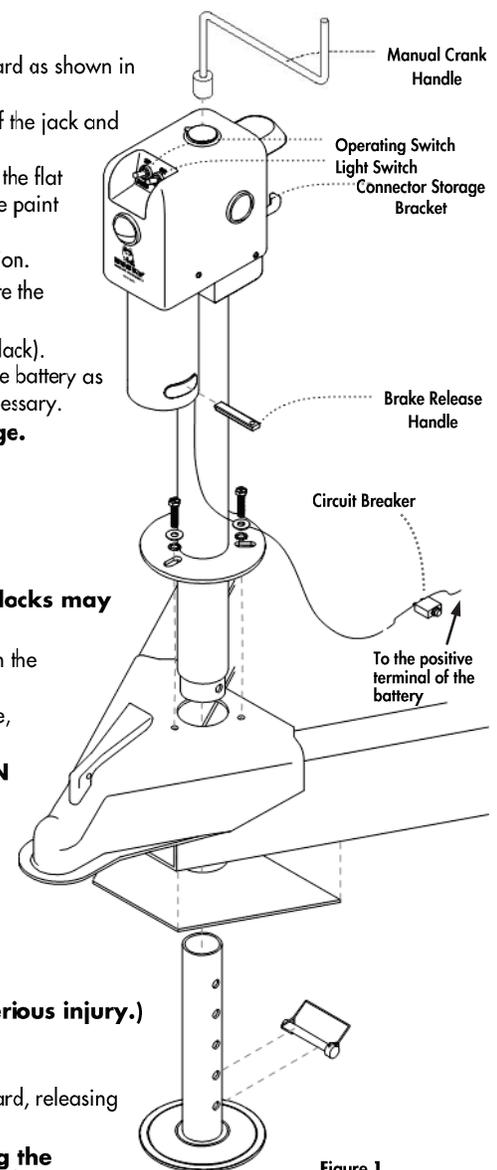

Figure 1
4. Insert the Husky® Brute into the jack hole and aligning the bolt holes so the motor housing is facing forward as shown in Figure 1.
5. Secure the jack with three (3) grade 5, 3/8"-16 UNC bolts and washers. Place the star washers between the flat washers and mounting plate as shown in Figure 1. The star washers are intended to penetrate through the paint on the mounting plate to ensure direct metal to metal contact. Bolts should be tightened to 15-20 ft-lb.